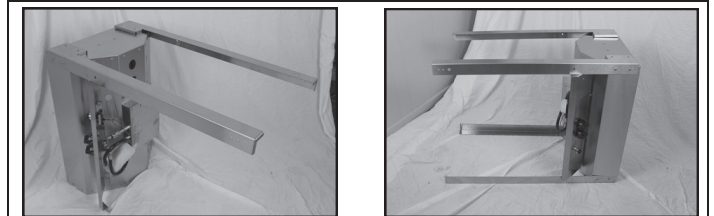

Fig. 2
Step 1: Leg Assembly (Fig 2)
1. Tip the grill head bottom on end as shown in Fig. 2 (TIP: work on protected area such as carpet, tarp or one of the boxes to protect grill finish.)